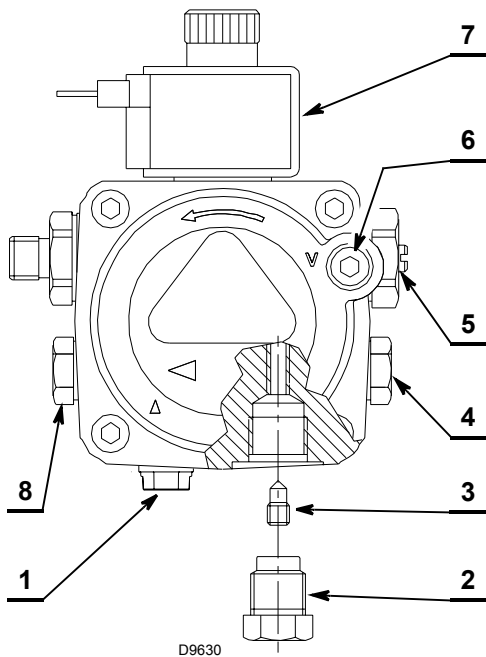
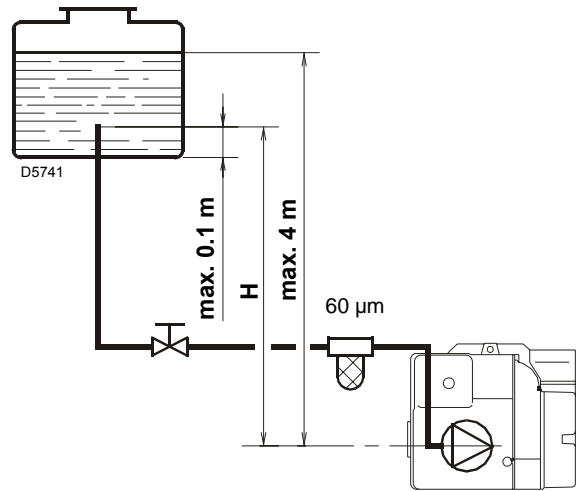

Fig. 13
Fig. 14
- The pump is designed to allow working level of filtration with two pipes. In order to obtain one pipe working it is necessary to unscrew the return plug (2), remove the by-pass screw (3) and then screw again the return flexible oil pipe (see Fig. 13).
Key (Fig. 13)
On the system in Fig. 14 it is sufficient to loosen the suction gauge connection (6, Fig. 13) and wait until oil flows out.